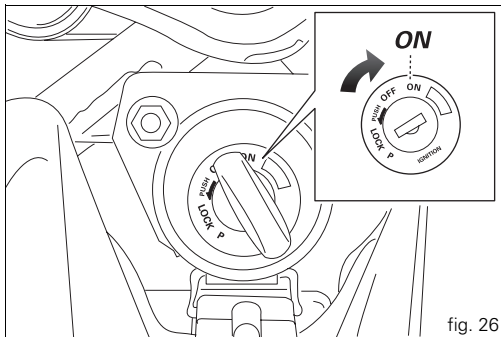

fig. 26
- 1) Turn the ignition switch to **ON** (fig. 26). Check that both the green light **N** and the red light  on the instrument panel come on.